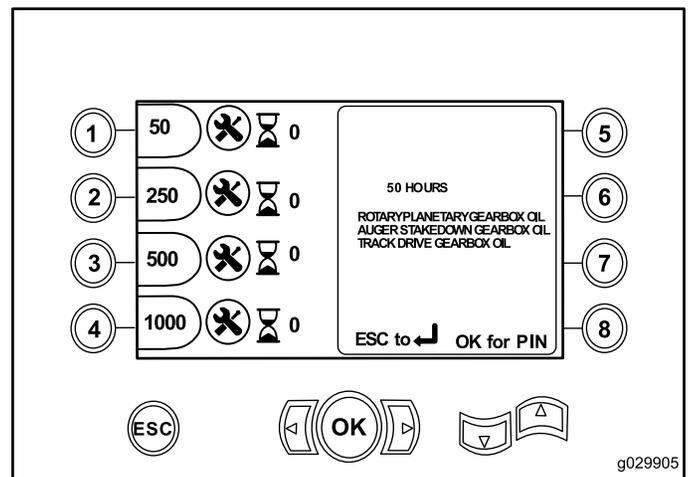

Figure 12
- Button 1—50-hours (Figure 12)